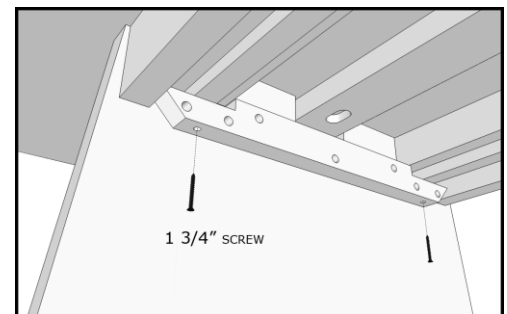

FIGURE 2
- 5) USE **4 - 1 3/4" PAN HEAD SCREWS** TO ATTACH THE BASE TO THE TABLE TOP (*FIGURE 2*).